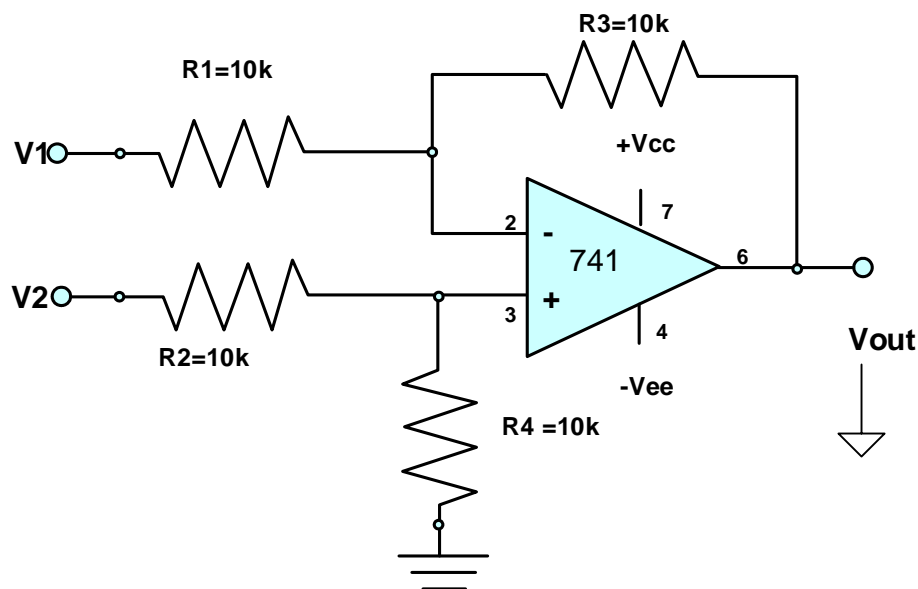

Figure 6.1
1. Connect the circuit as shown in figure 6.1 and switch on power supplies